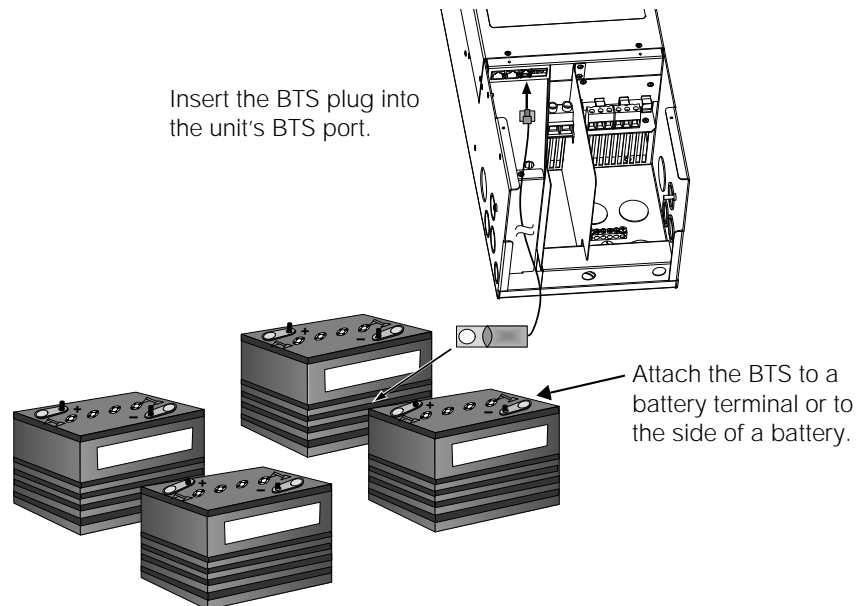

Figure 2-15 Installing the BTS
4. Pass the other end of the BTS cable through the knockout and strain relief bushing on the unit and insert the BTS plug into the BTS RJ-11 port. See Figure 2-15.